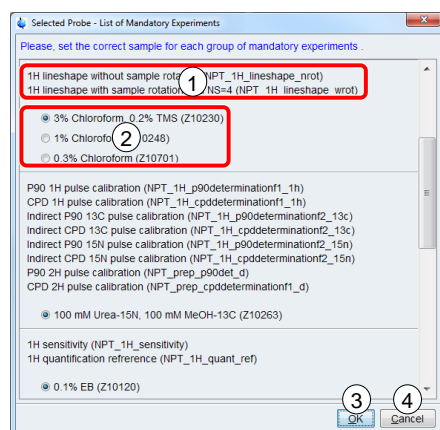
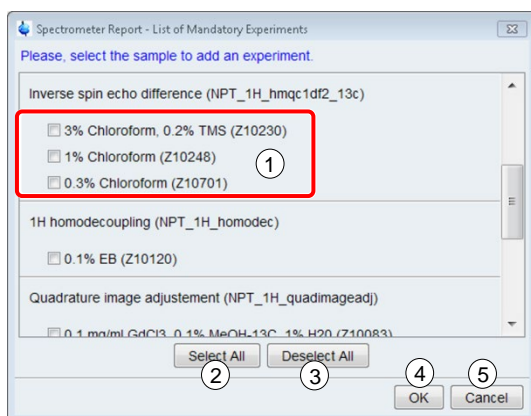

Figure 5-4: List of Mandatory Experiments
Figure 5-5: List of mandatory Spectrometer Report Experiments
- (4) **Selected Probe – Show and set mandatory experiments available**
Select this checkbox to set combinations of mandatory experiments and samples available for this Inspection Lot. The selected **Probe ID** (2) and **Test Mode** (3) affect the set of mandatory experiments. This option opens a subsequent dialog (shown in Figure 5-4) during the creation of the Inspection Lot.
If a Spectrometer Test is done, select this check box to add a set of spectrometer specific experiments to the Inspection Lot. These experiments usually have to be included in only one of the Spectrometer Report related Inspection Lots. An additional dialog (shown in Figure 5-5) opens during the creation of the Inspection Lot.
(10) Click **OK** to apply all settings and continue the creation of the Inspection Lot. Depending on the selected options (see (4) and (6)) additional dialogs as shown in Figure 5-4 and Figure 5-5 open subsequently.
(11) Click **Cancel** to abort the creation of the Inspection Lot.
## Selected Probe – List of Mandatory Experiments Dialog (Figure 5-4)
## List of mandatory Spectrometer Report Experiments (Figure 5-5)